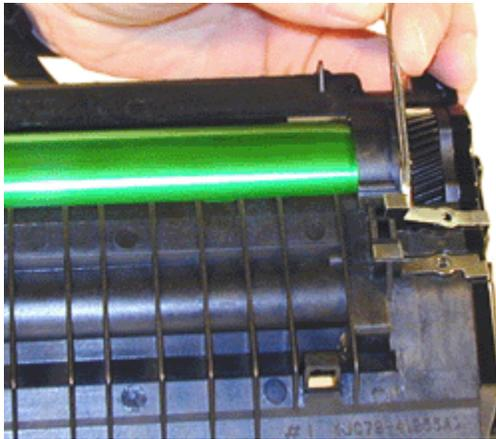

FIGURE 9
- Carefully pry up the two metal contacts on the right side. Be very careful not to damage the small plastic pins that the contacts lock on to. See Figure 9